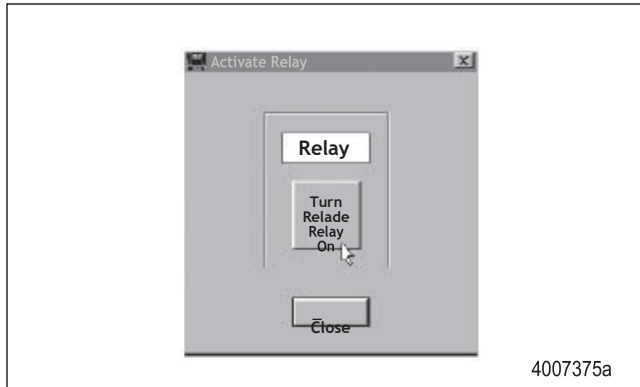

Figure 3.39
- The function of the retarder relay can also be verified using Meritor WABCO TOOLBOX™. Under the "Component Tests" drop down menu, select the "Relay" option. The following screen will appear. Figure 3.39. This is helpful in verifying the correct operation, installation and wiring of the unit under test.